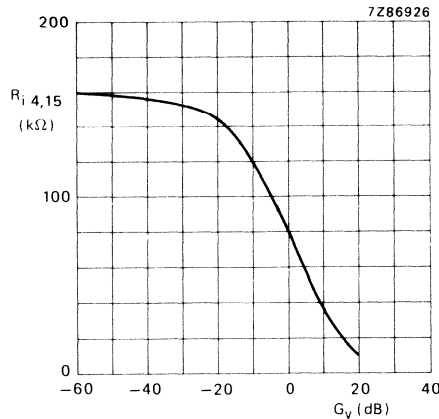

Fig. 4 Input resistance ( $R_i$ ) as a function of gain of volume control ( $G_V$ ). Measured in Fig. 1.
1. Equation for input resistance (see also Fig. 4)